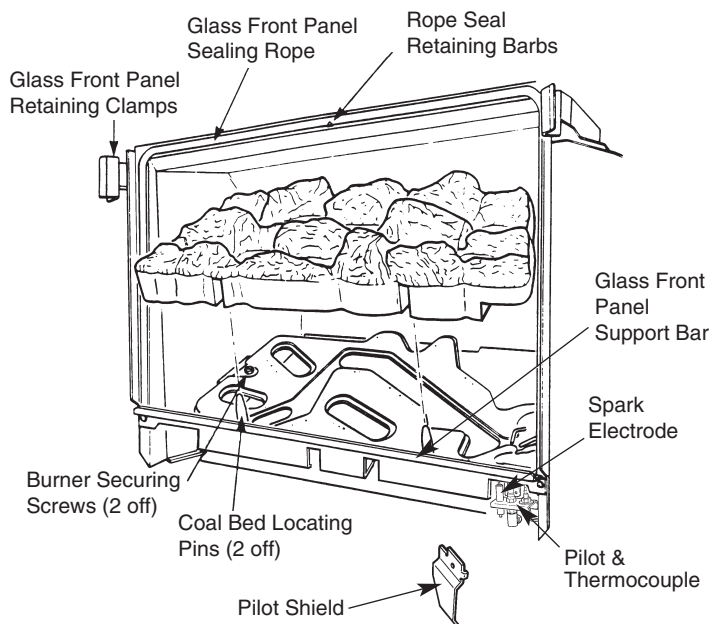

Fig. 11 Coal Bed
6. Remove the glass front panel as follows: (Fig.11).
7. Remove the coal bed by carefully lifting it away from the locating pins (Fig.11).
### 2. GLASS FRONT PANEL (Fig.11)
### 3. SEALING ROPE (Glass Front Panel) (Fig.11)
### 4. COAL BED (Fig.11)